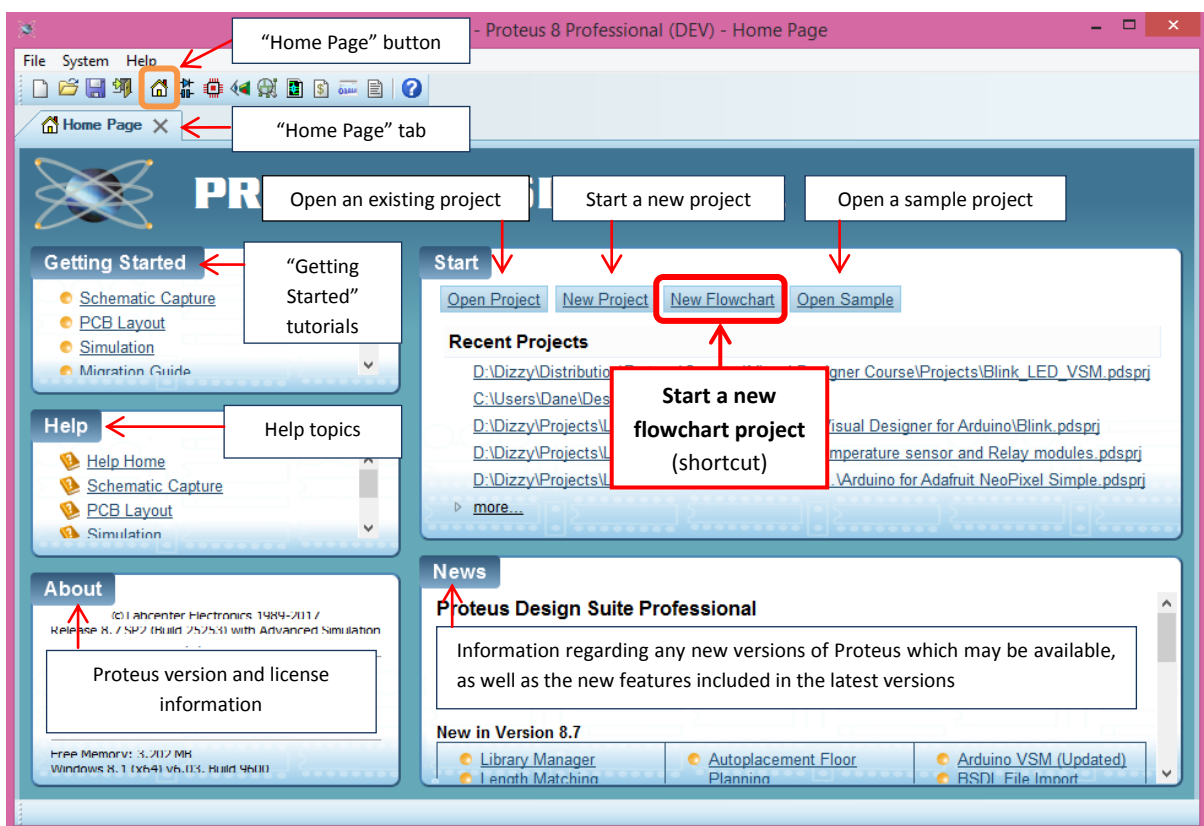
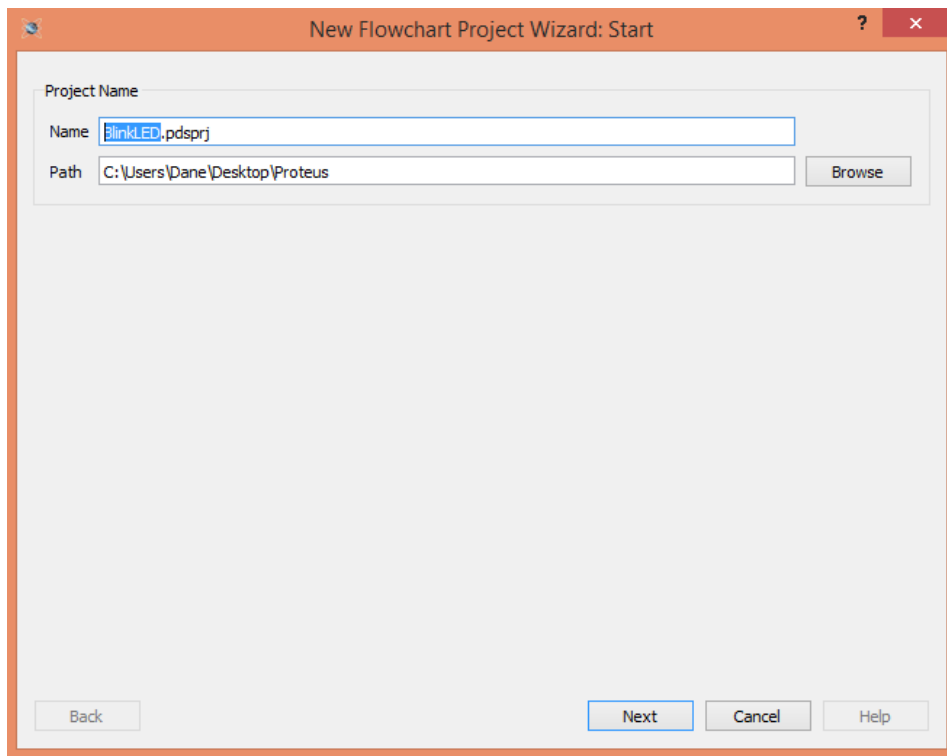

Figure 2-1: Proteus “Home Page”
Figure 2-2: New Project Wizard for starting a new flowchart project
Step 2: In order to start a new flowchart project, the “**New Flowchart**” option should be selected in the **Start section** of the Proteus desktop screen (see Figure 2-1). This will then launch the New Project Wizard for starting a new flowchart project (Figure 2-2).